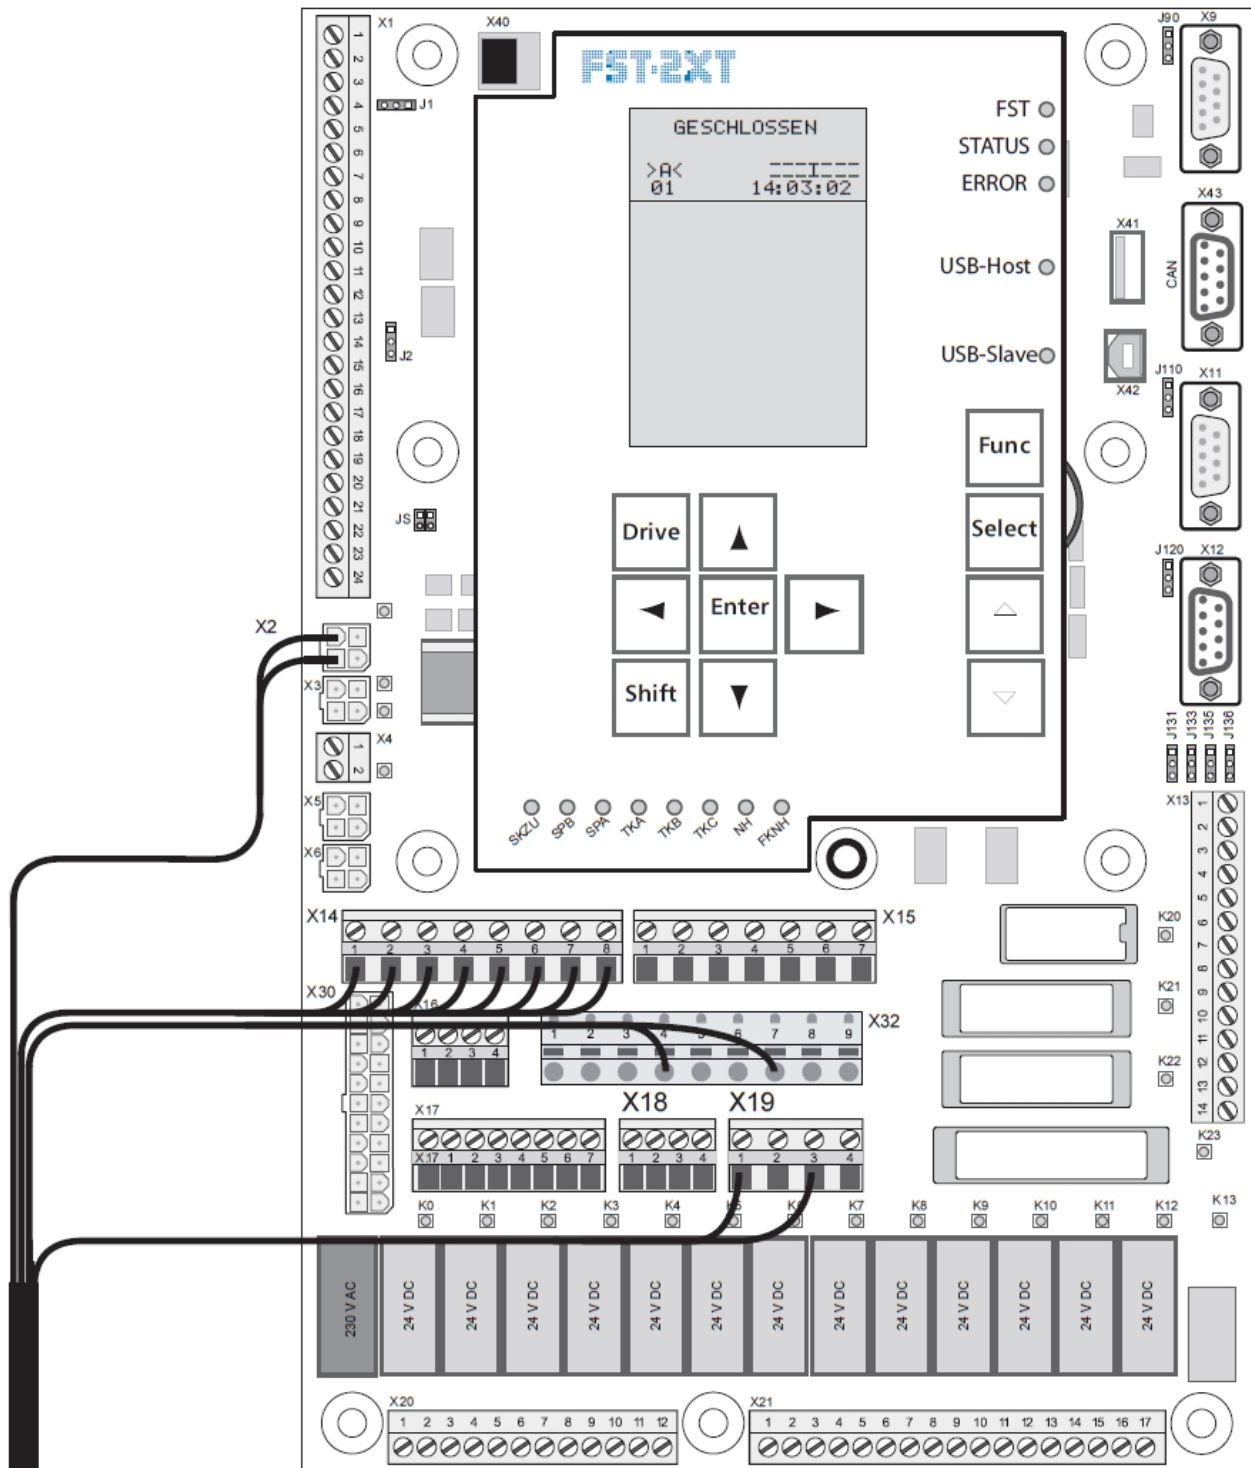

Abb. 2 Connection of the receiver cable to the FST-2XT controller
- Insert plugs X2, X14, X19 and X32 of the receiver cable into the corresponding terminal strips of the FST-2XT according to Fig. 2.